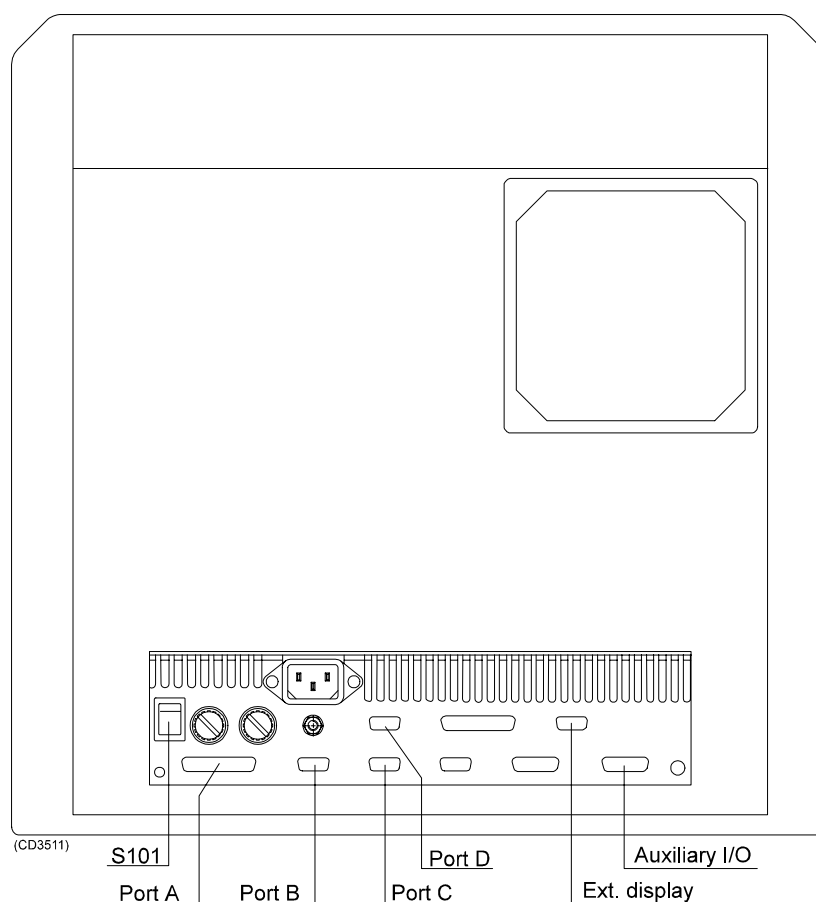

Figure 1 - The rear side of the Sonar Control Unit
- Set the switch S101 at the rear of the Sonar Control Unit to OFF position. For location of the switch, refer to figure 1.